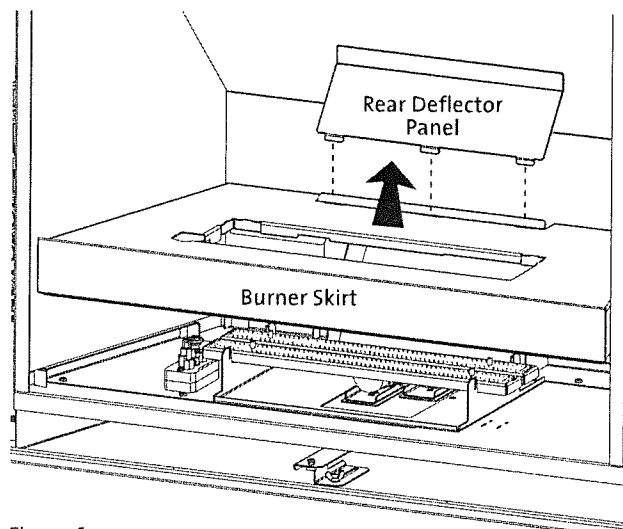

Figure 6.5
**Silhouette Burner:** Lift out first the Rear Deflector Panel, and then the Burner Skirt. The burners can then be removed to access the orifices. See fig. 6.5.
3. Remove the Rear Deflector Panel and Burner Skirt by lifting each out of the firebox. See fig. 6.5, page 19.